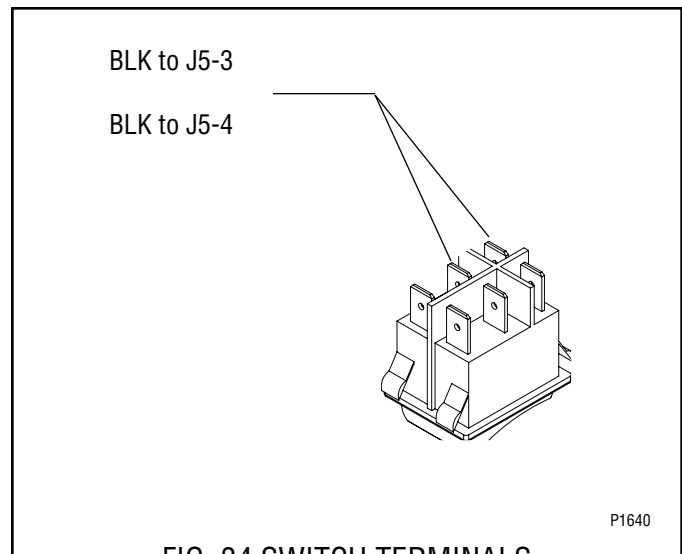

FIG. 34 SWITCH TERMINALS
5. With an ohmmeter, check for continuity between the terminals shown in Fig. 34.